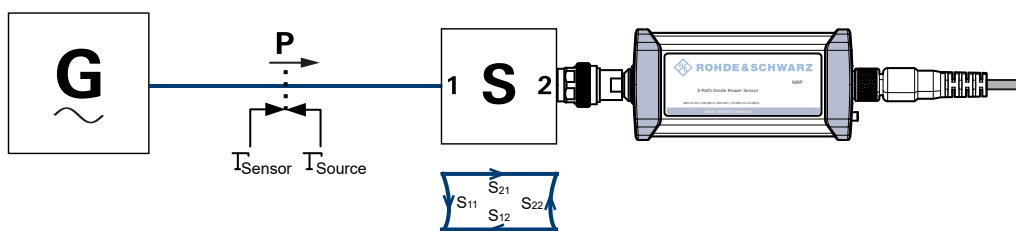

Figure 9-6: Correction of interactions between the power sensor, the signal source, and the S-parameter device
The interaction between the complex reflection coefficient  $\Gamma_{\text{sensor}}$  of the power sensor and the reflection of port 2 is expressed by  $s_{22}$ , see Figure 9-6. If the S-parameter correction is enabled, this interaction is always considered, regardless whether gamma correction is performed or not.
- S-parameter device if the S-parameter correction is enabled, S11 in Figure 9-6.